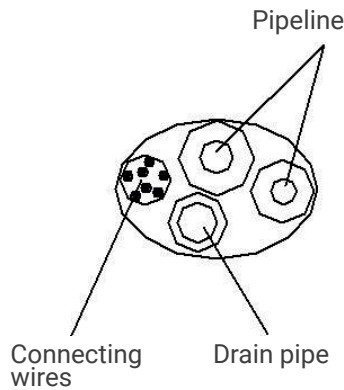

Fig.6
- a. 1. Connecting right back tube (similar to right lower tube) (optional, Refer to Fig.6)